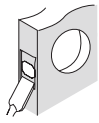

Figure 3d
- Chisel 1/8" (3mm) deep or until latch face is flush with door edge (Figure 3d).